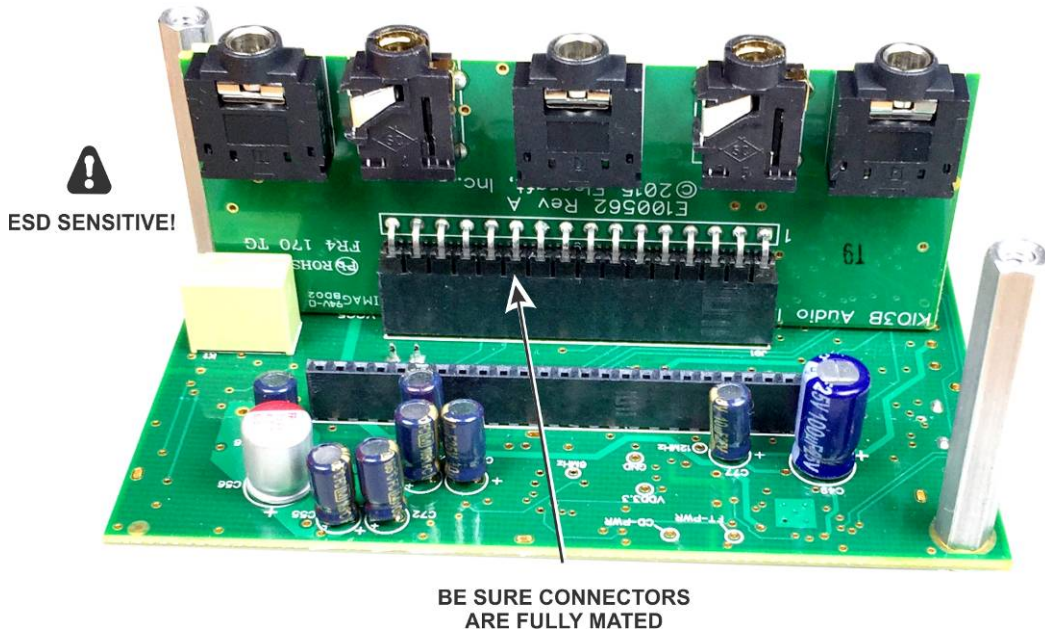

Figure 57. Mounting Audio I/O Daughter Board on KIO3B.
□ Plug the Audio I/O daughter board into J91 as shown in Figure 57. The second daughter board will be installed later.